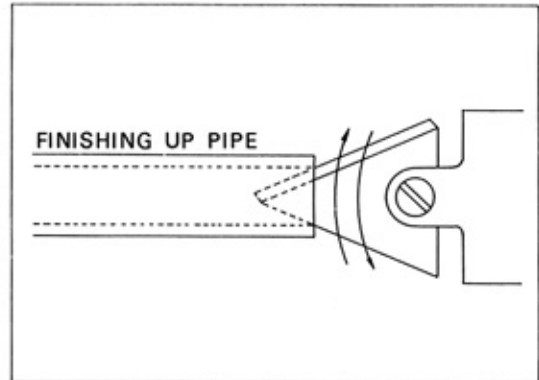

Fig. 45
2. Every time the tube is cut, finish the cut end using the refrigerant pipe cutter knife as shown in Fig. 45. Especially, the internal surface of the flared portion should be finished sufficiently.